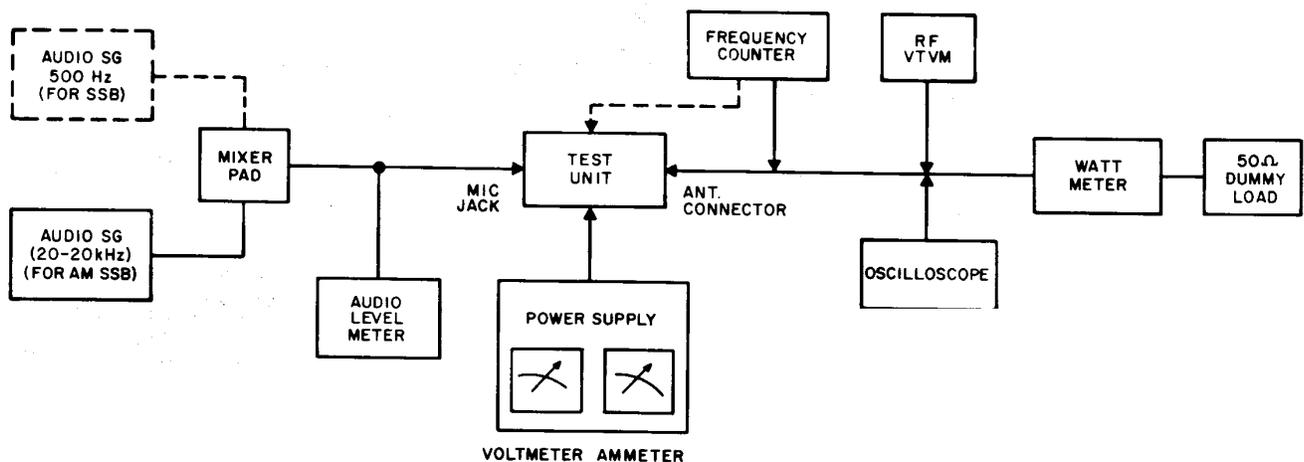
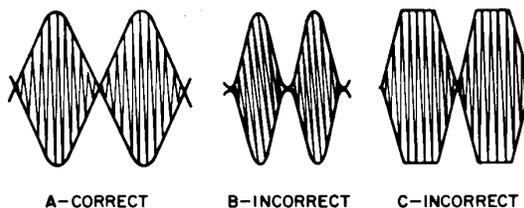

Figure 7 – Test Equipment Hook-Up – Transmitter
Figure 8 — Modulation Envelope
Connect test equipment to the transceiver as shown in the block diagram below, Figure 7. To activate the transmitter without using the microphone, use the dummy microphone plug wired as shown in Figure 6A. This plug is also used to introduce a modulating audio signal to the microphone input circuit as described in the following procedure.
- c. Connect oscilloscope and 50 ohm dummy load across ANT connector, see Figure 7.
- j. Feed two 25 mV signals, one at 500 Hz, the second at 2400 Hz (see Figure 7) into MIC input Adjust RV2 for PEP of 10 watts. Check on each channel that PEP is between 9 and 11 W. Also check that scope display conforms to "A" in Figure 8. (For additional reference see FCC Bulletin OCE43 of 4/77 and EIA Standard RS424).